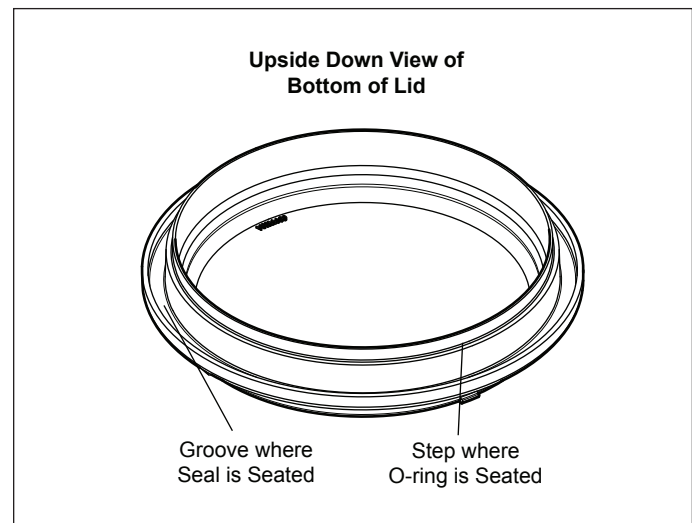

Figure 4. Placement of Blue Pressure Test O-ring
2. Place the blue o-ring on the step located ¼" from the bottom of the lid. See Figure 4.
NOTE The blue o-ring sits approximately ¼" away from the seal. See Figure 4.